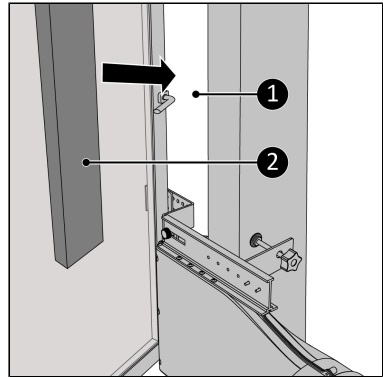

Figure 84.
16. Fill up the open spaces (Figure 84, pos. 1) with the delivered isolation foam (Figure 84, pos. 2), cut the foam if necessary*.